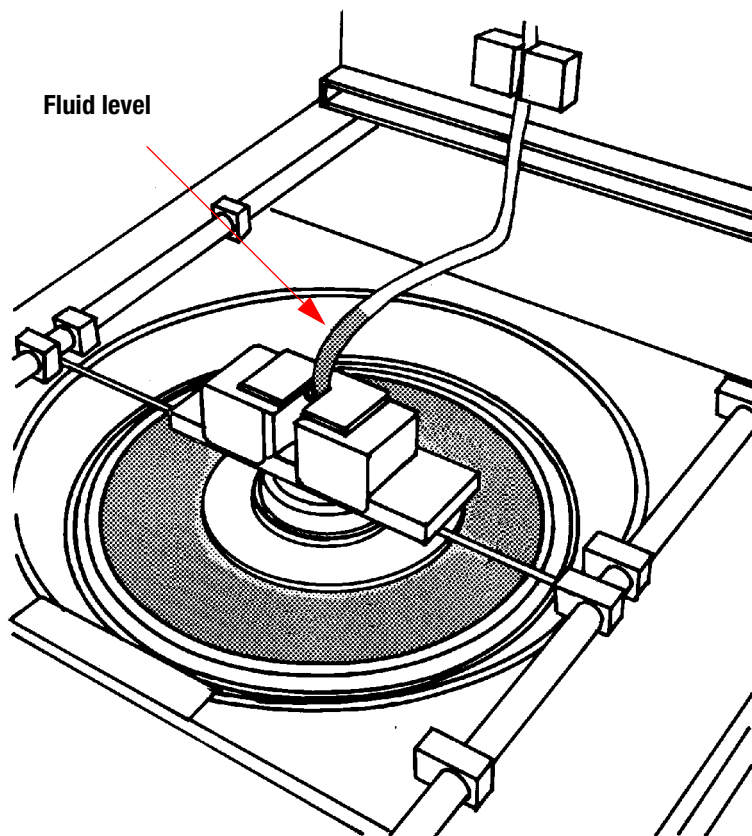

Figure 6-15: Fluid level above the rotating seal
- 4 When no more fluid will flow into the cell processing bag or the fluid level (Figure 6-15) is just above the rotating seal, press the STOP RESET button.
- 11 When no more fluid will flow into the cell processing bag or the fluid level (Figure 6-15 on page 6-17) is just above the rotating seal, press the STOP RESET button.
- 17 When no more fluid will flow into the cell processing bag or the fluid level (Figure 6-15 on page 6-17) is just above the rotating seal, press the STOP RESET button.